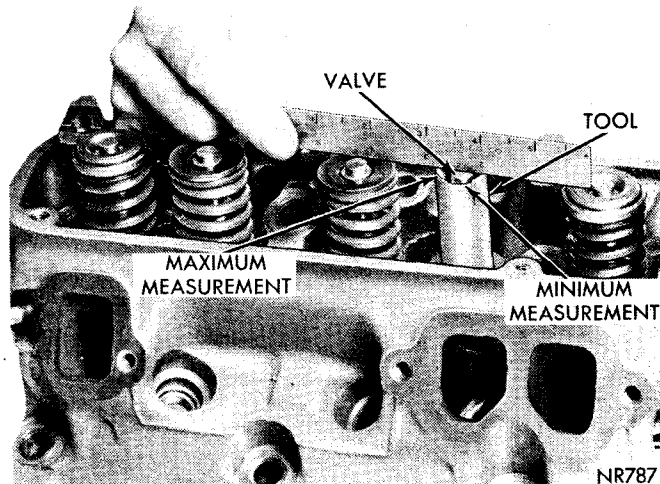

Fig. 16—Measuring Valve Stem Length
(1) Coat valve stems with lubrication oil and insert them in cylinder head.
(2) If valves or seats are reground, check valve stem height with Tool C-3968 (Fig. 16). If valve is too long, grind off the tip until length is within limits.